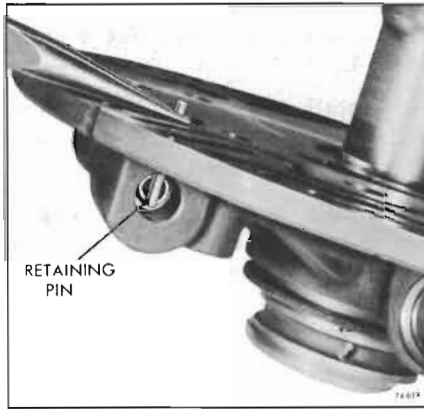

Figure 74-622
10. Remove the stator valve retaining pin. See Figure 74-622.